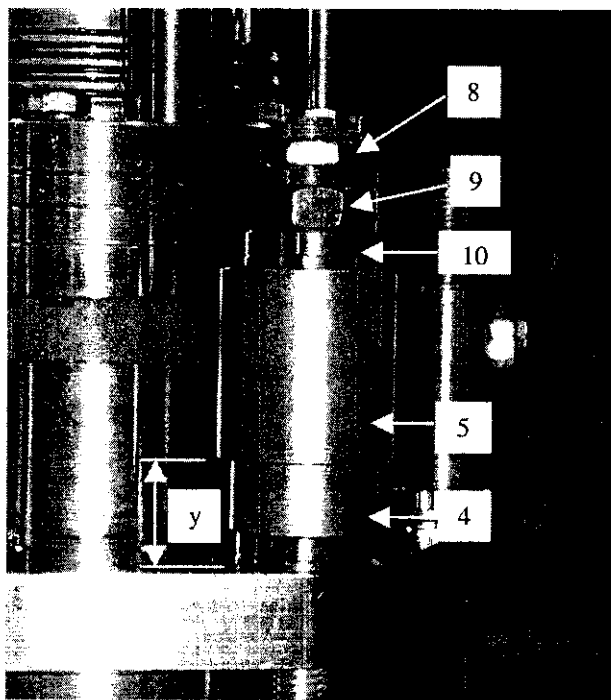
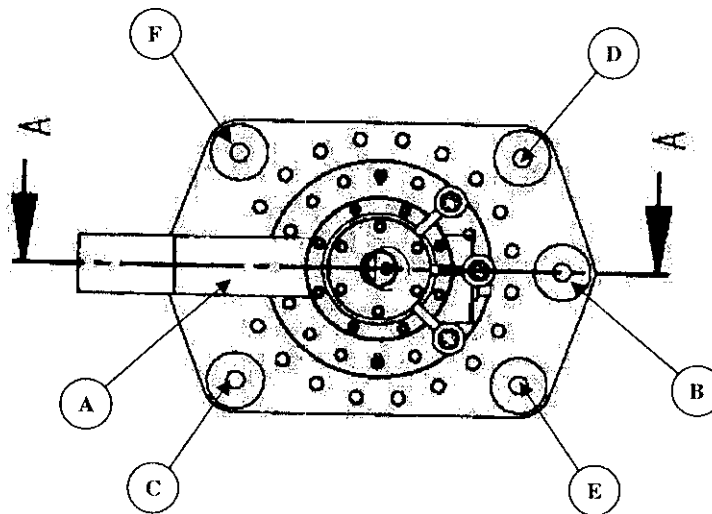

Figure 1.28a An installed Belleville Washer Assembly.
Figure 1.29.1.5 The specified sequence for tightening the Belleville Washer Assemblies.
- 1.28 Install Belleville Washer Assemblies on each tensioning stud per Figures 1.28a and 1.28b. A spherical washer must be placed below the Belleville washer holder on each stud. In the figures: Items 11 (10 each) are Belleville Washers, arranged as shown; Items 6 (2 each) are flat washers; Items 4 and 5 are the Belleville Washer Holder; Item 10 are Spherical Washers for above and below the washer holder; Item 9 is a loading nut; and Item 8 is a jam nut.
- 1.29.1.2** Tighten the 6 loading nuts finger-tight. With adjustable parallels, measure and record the gap "y" indicated in Figure 1.28a between Item 5 and the current lead top flange at the 6 locations specified in Figure 1.29.1.5. Units are mm.
- 1.29.1.4** Using the sequence A through F in Figure 1.29.1.5, tighten the loading nuts $\frac{1}{4}$ turn until the total compression is 1.8 mm at each of the six locations. As each loading nut is tightened $\frac{1}{4}$ turn, check off the appropriate line.
- 1.29.1.5 Remove the adjustable parallels from under each Belleville washer assembly, then replace them and measure the final gaps 'y' in Figure 1.28a. Units are mm.
- 1.29.2.2 Tighten the 6 loading nuts finger-tight. With adjustable parallels, measure and record the gap "y" indicated in Figure 1.28a between Item 5 and the current lead top flange at the 6 locations specified in Figure 1.29.1.5. Units are mm.
- 1.29.2.4 Using the sequence A through F in Figure 1.29.1.5, tighten the loading nuts $\frac{1}{4}$ turn until the total compression is 1.8 mm at each of the six locations. As each of the loading nuts is turned $\frac{1}{4}$ turns, check off the appropriate line.
1.29.2.5 Record the final measured gaps 'y' in Figure 1.28a. Units are mm.